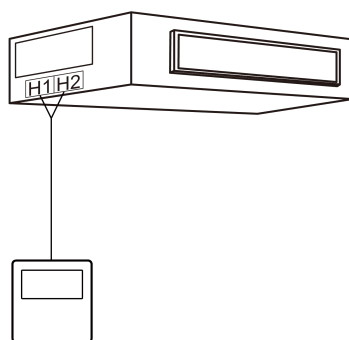

Fig 5.6
- 1) Fig 5.6 shows the installation of wired controller.